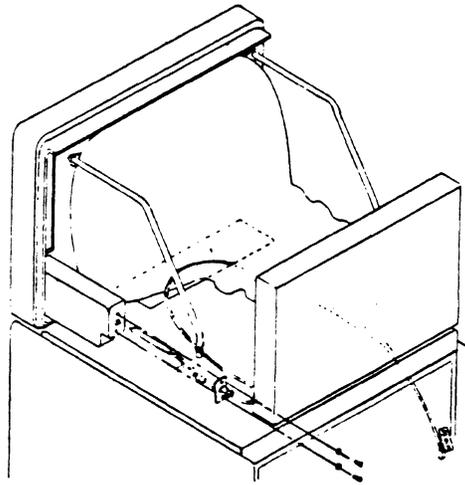

Figure 1-19
5. If the unit has a light pen, remove the two phillips screws from the plate at the back of the light pen housing. Pull the plate and cable back until the connector can be unplugged (see Fig. 1-19).
1-25.1 Light Pen Removal (Fig. 1-19)